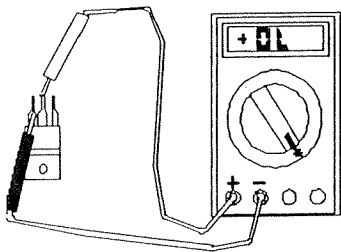

Figure 4: FET "OFF"
- 2) Verify all FETs are "OFF", by momentarily placing the black lead (common) of the multimeter or DC source, on the GATE and the red (positive) lead on the SOURCE of each FET. (See *Figure 4*)
6) Temporarily place the black lead on the GATE and the red lead on the SOURCE, this will turn the FET "OFF". (See Figure 4)